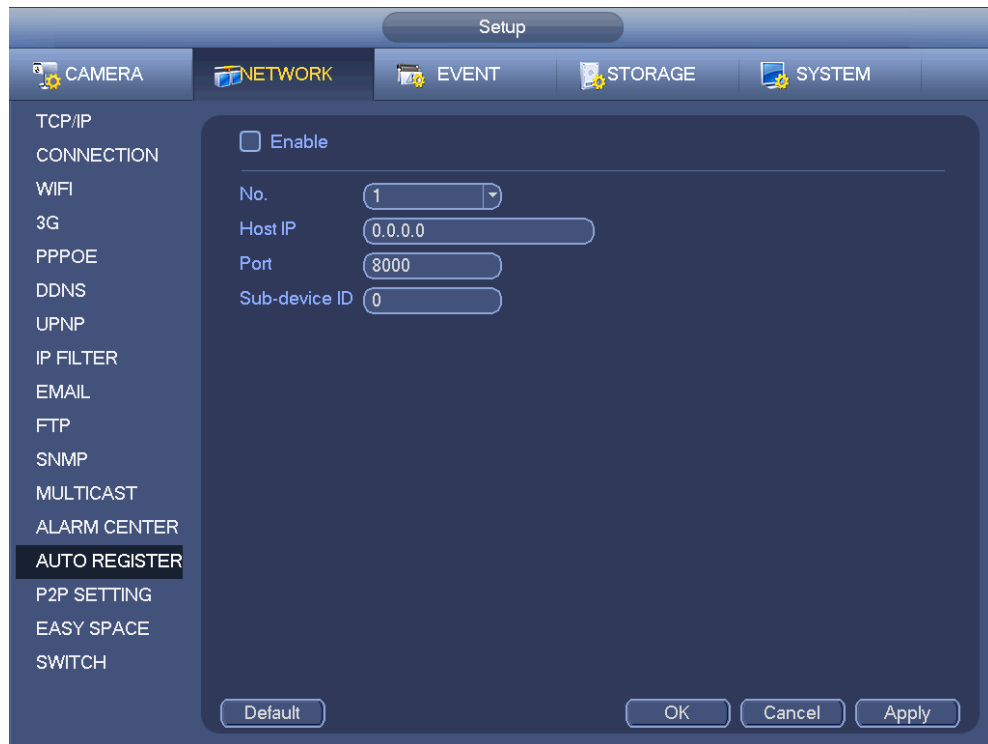

Figure 4-140
1) The setup interface is shown as in Figure 4-140.
- 3) Now you can add device. Please do not input default port number such as the TCP port in the mapping port number. The device ID here shall be the same with the ID you input in Figure 4-140. Click Add button to complete the setup.